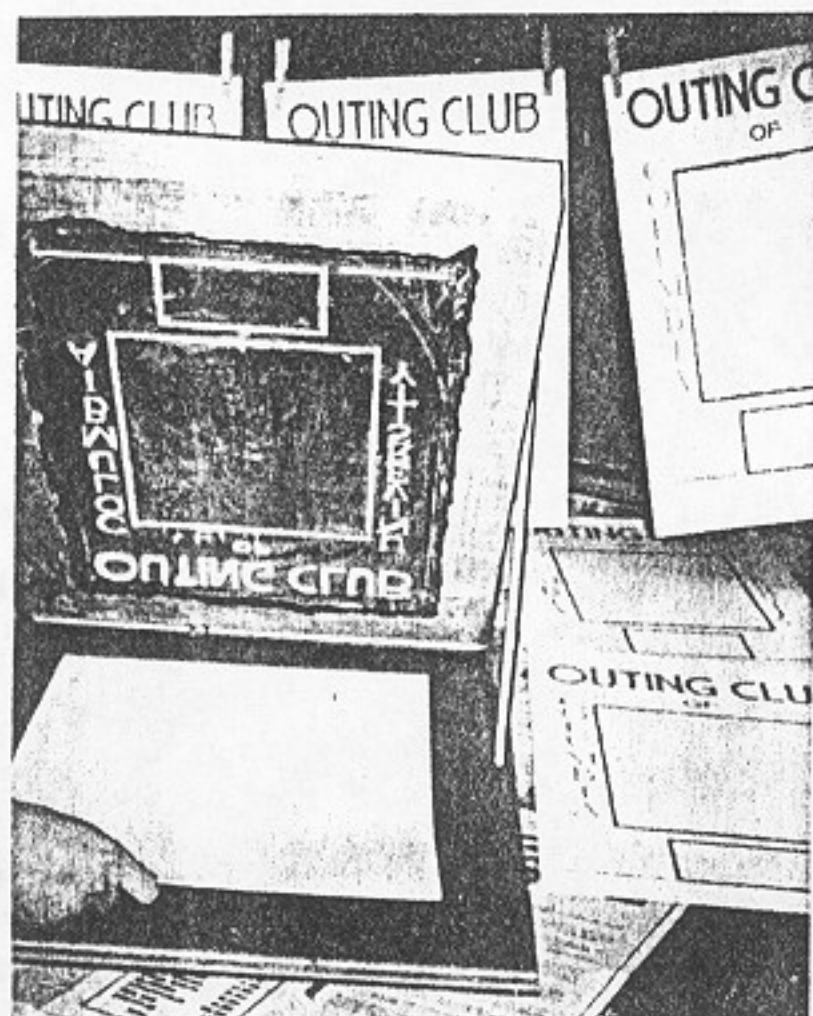

Fig. 182. Register Guides Attached to Base Board
4. A base board and a hinged screen should always be used. Register guides should be attached to the base board, Fig. 182,